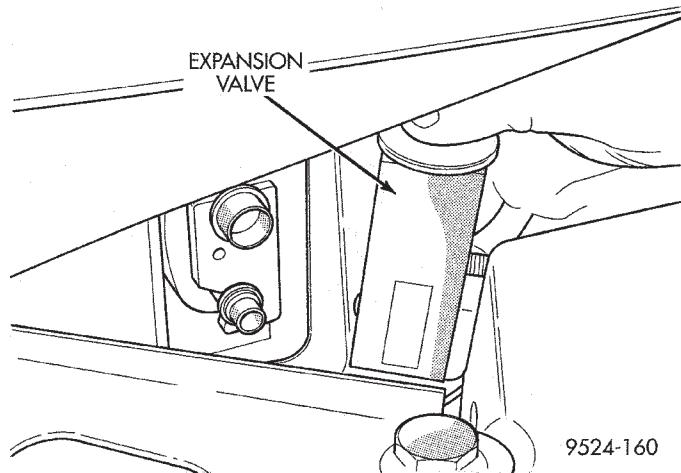

Fig. 41 Expansion Valve Removal
- (13) Carefully remove expansion valve (Fig. 41).
- (14) Remove the old O-rings.